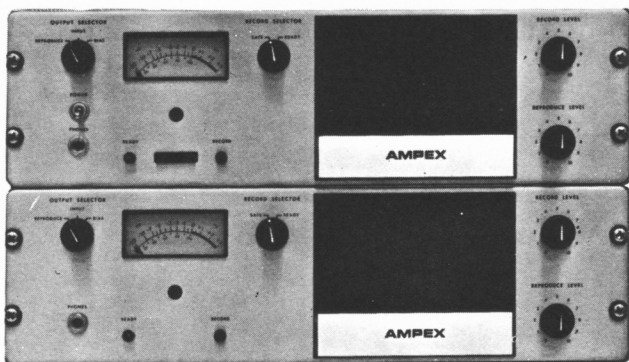

Fig. 3-2 Operating Controls and Indicators, Record/Reproduce Electronic Assembly
3.1.2 Electronic Assembly (See Fig. 3-2)